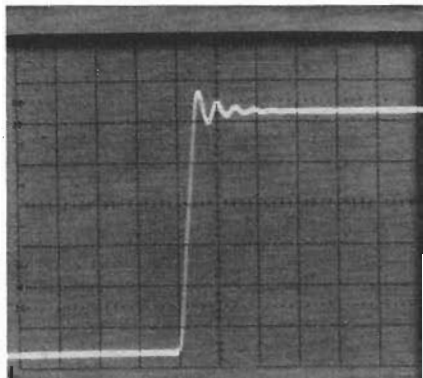

Fig. 11. Excessive overshoot caused by scope's poor response.
When comparing oscilloscopes, it is sometimes necessary to convert a specification from one form to another to determine how each scope measures up. If the bandwidth (BW) is known and you wish to know the risetime (t_r), or vice versa, just divide the known quantity into 0.35. The general formula is $BW \times t_r = 0.35$. Bear in mind, however, that this formula works only if the response of the scope rolls off smoothly, until it is close to 12 dB down at twice the -3-dB frequency. If the scope does not follow this Gaussian curve, excessive overshoot (more than 2% or 3%) occurs as shown in Fig. 11. If the scope does have a Gaussian response, it may be usable at frequencies up to twice the rated limit.